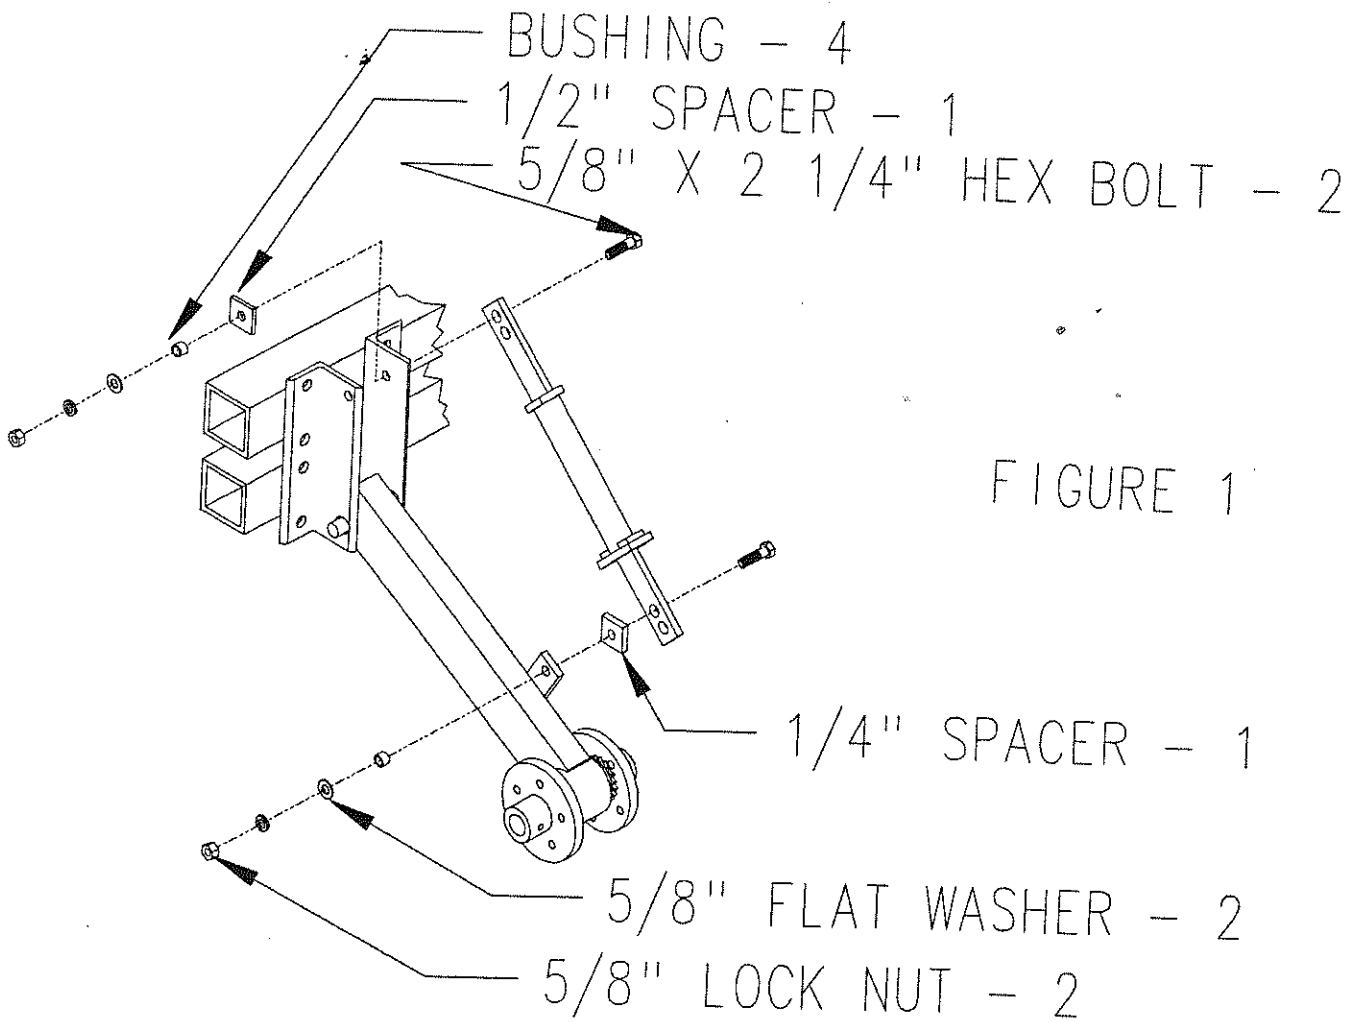

FIGURE 1
(Figure 1)
2. Replace the strap with the floating drive wheel strap. Figure 1 shows the floating drive wheel strap properly mounted. Add washers and spacers as shown.
ADJUSTING HEIGHT OF THE DRILL (Figures 1, & 9)
- A. 3-Point Hitch Drills: Should be adjusted with the drive wheels in the center height position as shown in figure 1. This should be the proper height for most soil conditions. However, the drill can be lowered 2" for extremely tough soil conditions by moving the drive wheel strap to the inside set of holes. Or the drill can be raised 2" for extremely soft soil conditions by moving the drive wheel strap to the outside set of holes.